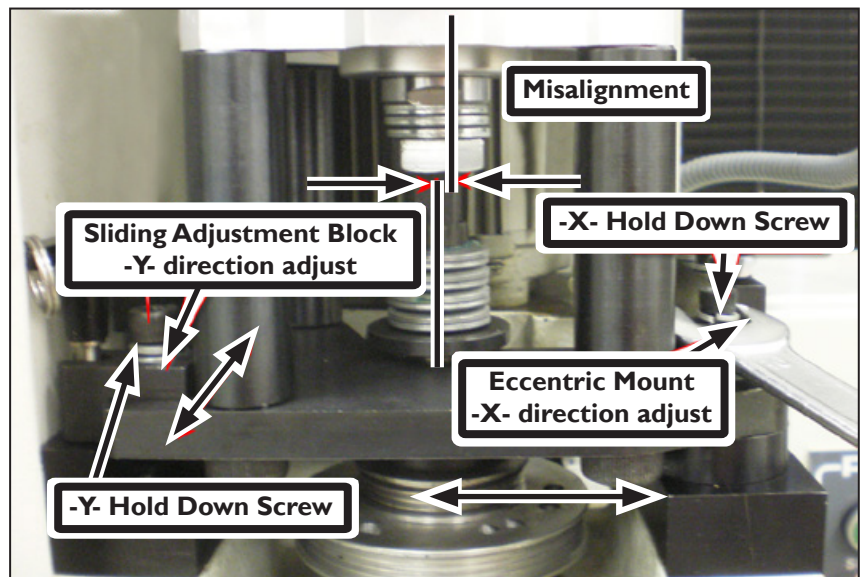

Figure 11
12. To prevent premature wear on the cylinder and maximize the holding capability of the system, you must align the cylinder concentrically with the drawbar. This is a two step process. Before starting, make sure that the screws indicated in **Figure 11** are snug, but not tight.
- a. Adjust the position in the -X- direction by using the back end of a drawbar wrench (or adjustable wrench) and turning the Eccentric Pivot Mount. There should be enough throw to visually align the cylinder and the drawbar. Tighten the -X- Hold Down Screw (see **Figure 11**).
- b. Adjust the position in the -Y- direction by pivoting the Cylinder Assembly and allowing it to slide under the adjustment block. After the cylinder is visually aligned with the drawbar, tighten the -Y- Hold Down Screw (see **Figure 11**).